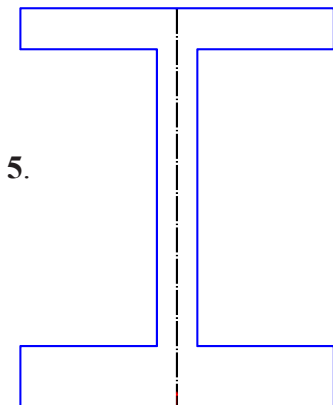

Fig. 5
Step 7. Click **Mirror Entities** on the Sketch toolbar, **Fig. 5**.
Step 8. Click **Smart Dimension** (S) on the Sketch toolbar.